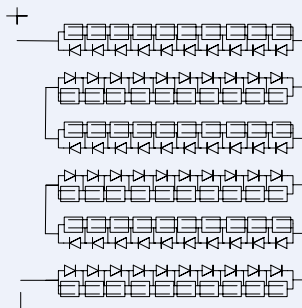

Figure 7-2: Electrical circuitry of cells and bypass diodes
- Bypass diodes divert current from a cell in the event of partial shading. See Fig. 7-2 for a diagram showing how the cells are electrically connected with the diodes.